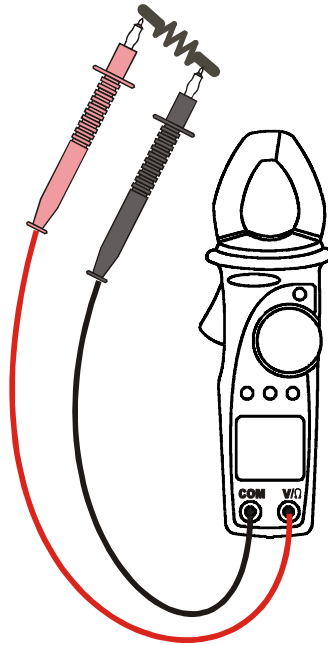

Fig. 9: use of clamp for continuity measure
2. Insert the test leads into the jack, the red plug into V/Ω jack, and black plug into COM jack, like showed in Fig. 9.